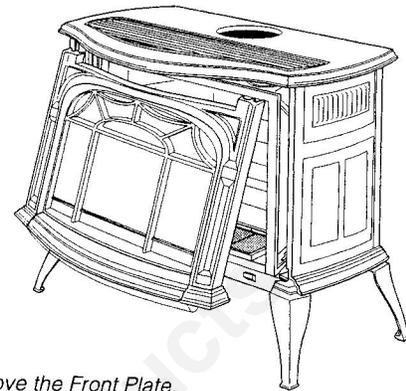

Figure 12. Remove the Front Plate.
1. Remove the Front Plate by grasping one side and the bottom and lifting the plate up as a unit while swinging the bottom out and away from the stove body. See Fig. 12. Remove the cardboard packing material from the top of the firebox.